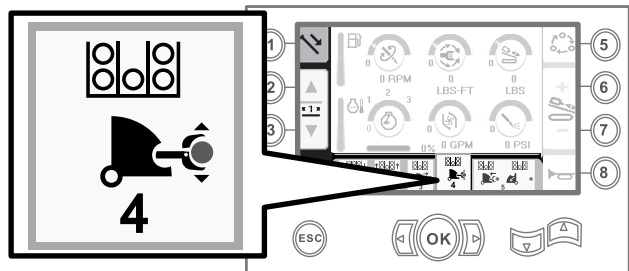

Figure 34
8. Release the rocker switch to proceed to the next step in the sequence (Figure 34).